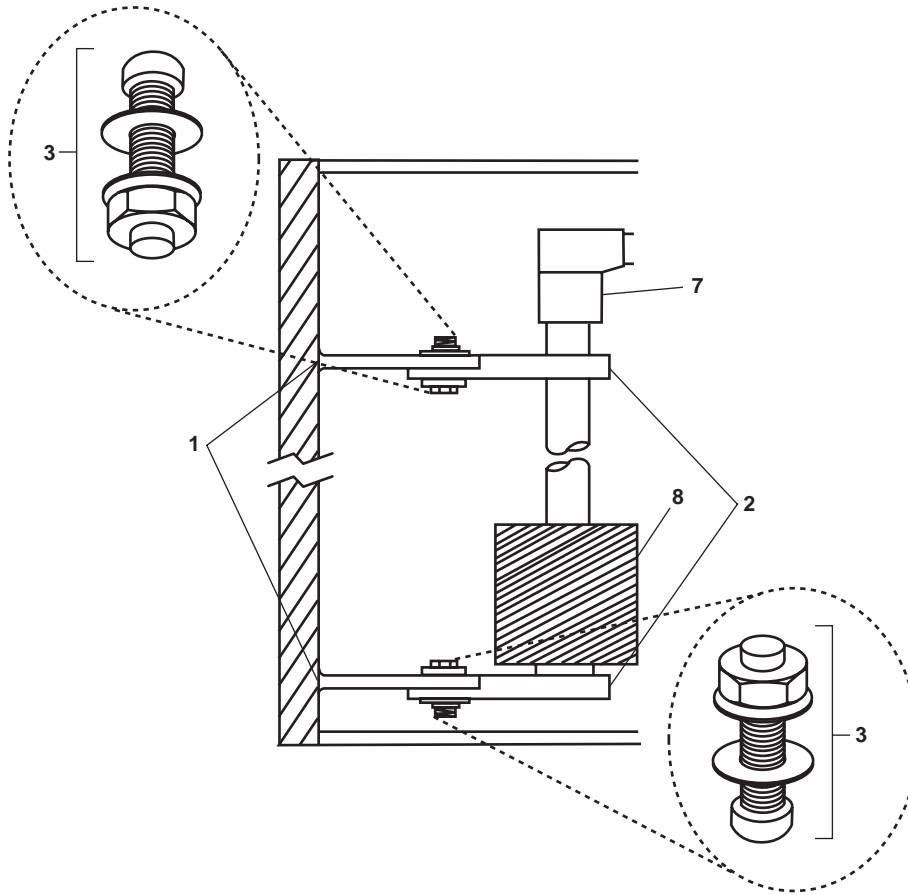

Figure 1. TLI Transmitter Mounting Brackets
2. If necessary, use a wire brush to scrape away any foreign matter from the mounting bracket welds (figure 1, item 1).
3. Verify that no corrosion or damage is present on the mounting brackets (figure 1, item 2).
4. Check for loose or missing attaching hardware (figure 1, item 3) on mounting brackets, and replace and tighten any missing hardware as necessary.
6. Ensure that the mounting brackets are holding the transmitter(s) (figure 1, item 4) firmly in place.